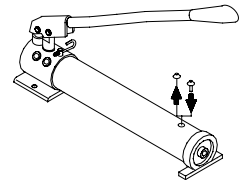

Figure 6 - Remove shipping plug and replace with air vent plug before initial use.
- Remove shipping plug and replace with air vent plug (Fig. 6).